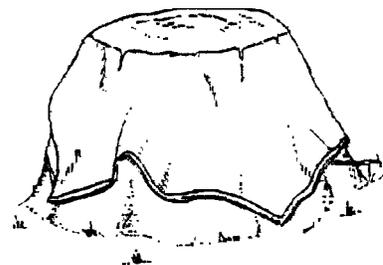

Figure 3
**Figure 3.** For best results, cover the sand pile with an insulated Tarp. An un-insulated tarp can be used but may not provide enough insulating factor in colder temperatures. If enough sand is not being heated, use a thicker insulating tarp, such as a concrete curing blanket- (These are sold at most contractor supply stores.)